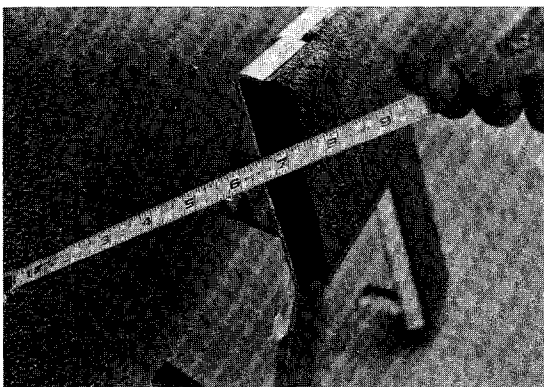

Figure 13-4
2. Correct brake pedal position is 6½" from floormat to back of brake pedal (Figure 13-4).